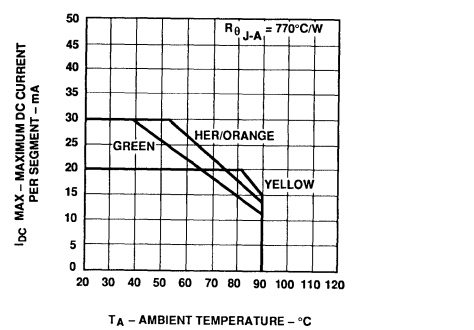

Figure 10. Maximum Allowable DC Current vs. Ambient Temperature.
6. Derate above 53°C at 0.45 mA/°C (see figure 10).
8. Derate above 81°C at 0.52 mA/°C (see figure 10).
10. Derate above 39°C at 0.37 mA/°C (see figure 10).